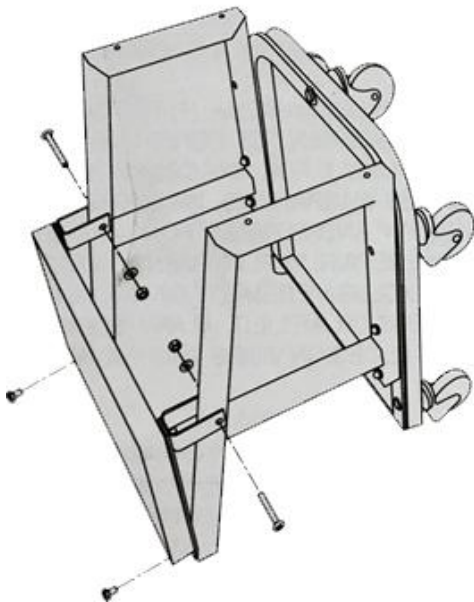

Figure 3- Attaching Creeper Seat Figure
3. Attach creeper seat to creeper side frames using two M6 x 40 Phillips head screws, with washers, and nuts, and two M6 x 14 Phillips head screws as in Figure 3.